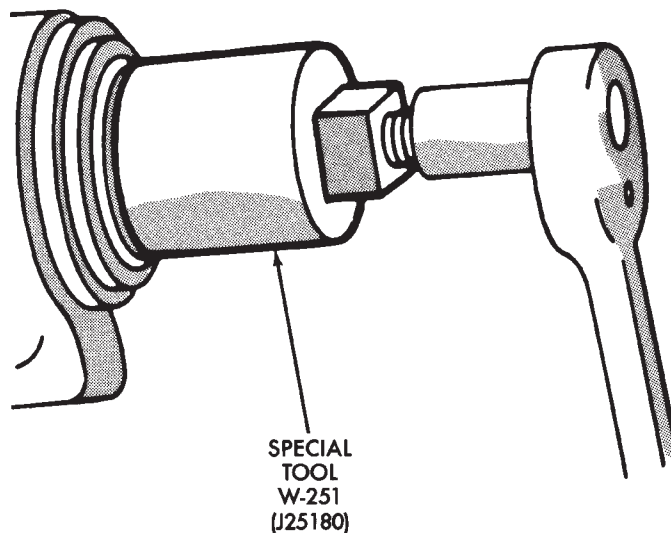

Fig. 3 Seal Removal
(9) Use Remover W-251 to remove the pinion gear seal (Fig. 3).